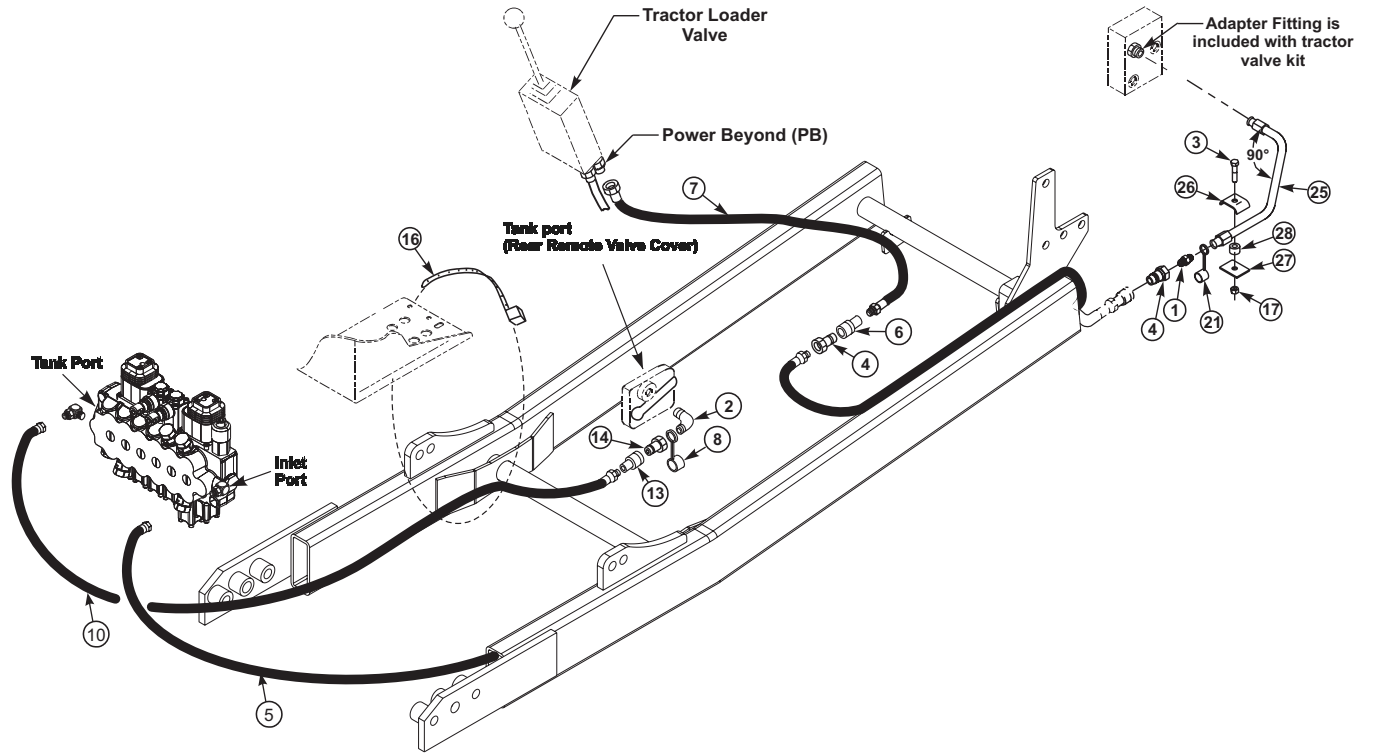

Figure 3
INSTALLING HYDRAULIC KIT (Figure 3)
1. Using 8mm allen wrench, remove plug from tank port on tractor remote valve cover plate on right side above rear axle. Install 1/2 x 3/8 elbow fitting (2) then 1/2 dust cap (8) and 1/2 male quick coupler (14) to tank port. Point fittings rearward and slightly downward to avoid tractor valve linkage.
2. Remove backhoe valve cover plate. Install 3/8 x 90" (5) hose to inlet port on backhoe valve (figure 3). Install 3/8 male quick coupler (4) to end of 3/8 x 90" hose (5).
3. Install 1/2 x 72" hose (10) to tank port on backhoe valve (Figure 3). Install 1/2 inch female quick coupler (13) to end of 1/2 x 72" hose (10). Reinstall backhoe valve cover plate.
4. Route hoses under backhoe footrest. Secure hoses under footrest using 11 inch tie strap (16).
6. Install PB oil line (25), 3/8 dust cap (21), 3/8 adapter (1) and 3/8 male coupler (4) to adapter fitting in power beyond port "A" of hydraulic manifold. Clamp PB oil line (25) to adjacent oil line using clamp (26), clamp flat (27), 3/4" O.D. spacer (28), 3/8 x 1-1/4 cap screw (3) and lock nut (17).
7. Install 1/2 x 24" hose (7) to fitting in power beyond port of tractor loader valve. Route hose through floorboard cutout. Reinstall valve cover onto loader valve. Install 3/8 female quick coupler (6) to end of 1/2 x 24" hose (7). Couple power beyond hose (7) from loader valve to manifold PB oil line (25).